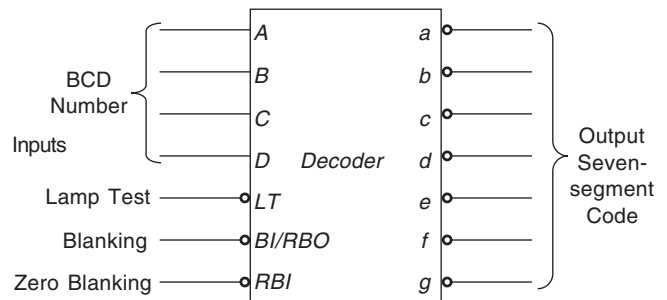

Fig. 11.18 Commercial TTL 7447A BCD-to-seven-segment Decoder/Driver (Logic Symbol).
The logic symbol for a commercial *TTL 7447A* BCD-to-seven-segment decoder/driver is shown in Fig. 11.18. The BCD number to be decoded is applied to the *inputs* labelled *D, C, B, and A*. When activated with a LOW, the *lamp-test (LT)* input activates all outputs (*a* to *g*). When activated with a LOW, the *blanking input (BI)* makes all outputs HIGH, turning all attached displays OFF. When activated, with a LOW, the *ripple-blanking input (RBI)* blanks the display *only if it contains a 0*. When the RBI input becomes active, the BI/RBO pin temporarily becomes the *ripple-blanking output (RBO)* and drops to LOW. *Blanking* means to cause no LEDs on the display to light.